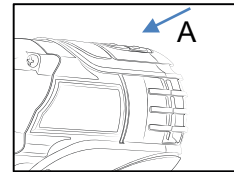

Fig. 3
1. The tool is applied with the battery capacity indicator (A) on the top pad for easy view . (Fig . 3)